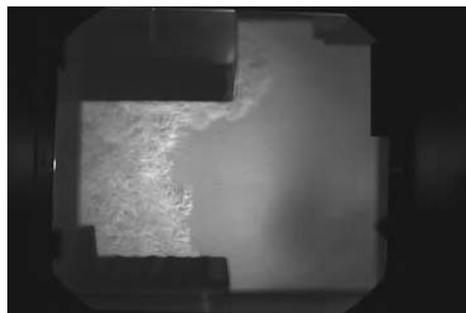

Figure 3A
*Figure 3A & 3B* are an example of the heat load seen in a common kitchen application. Both hoods use the same exhaust rate, however, the hood in *Figure 3A* is spilling heat into the space.